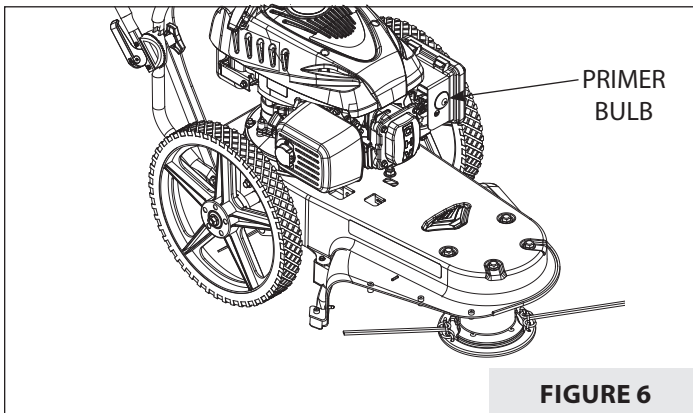

FIGURE 6
1. Push the primer bulb three times. Wait approximately two seconds between each push. **SEE FIGURE 6.**
3. To start a cold engine, push the primer bulb three times. Wait two seconds between each push of the primer bulb. **SEE FIGURE 6.**